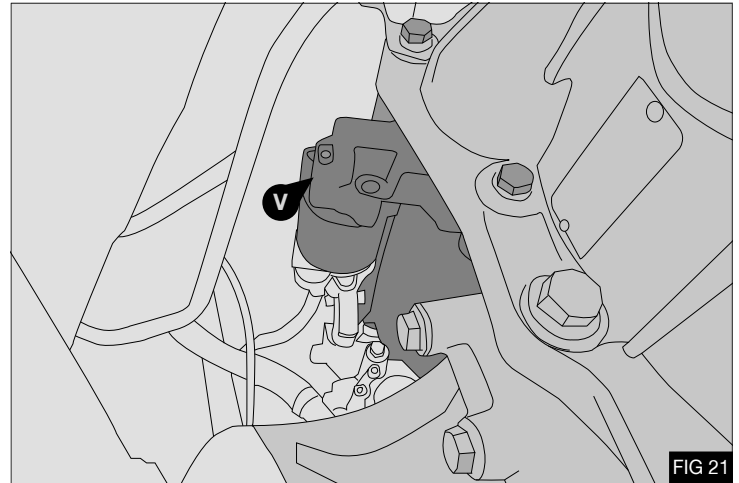

FIG 21
17. Torque bolt (11) to 35Nm / 26lbft
19. Remove 3x fasteners securing the engine starter motor (V).
- Fig 21